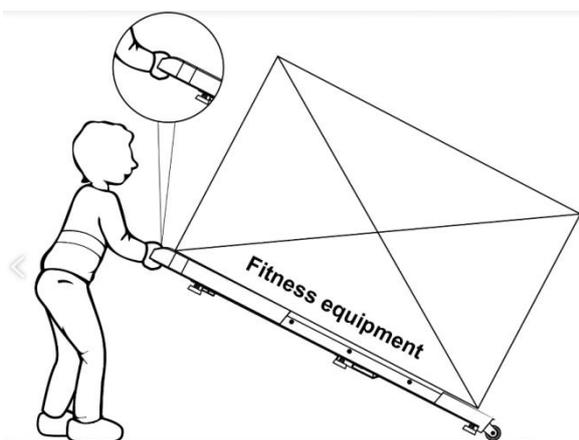

Figure 1.4.1-1
1.4.1 To move the equipment, carefully lift the rear end by pushing down on the 2 front transport wheels (Figure 1.4.1-1). Carefully steer the equipment to another location.